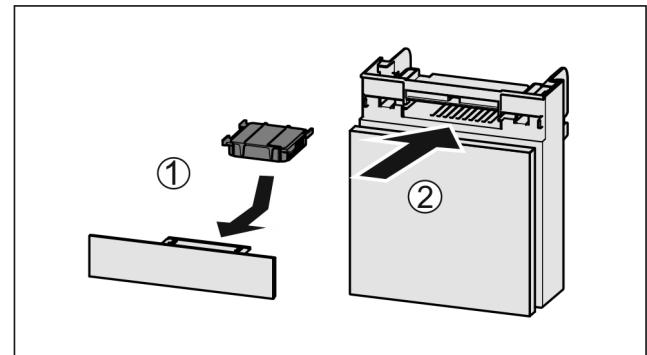

Fig. 190
- ▶ Insert the carbon filter as shown in the diagram Fig. 190 (1).
- ▶ Push the compartment in Fig. 190 (2).